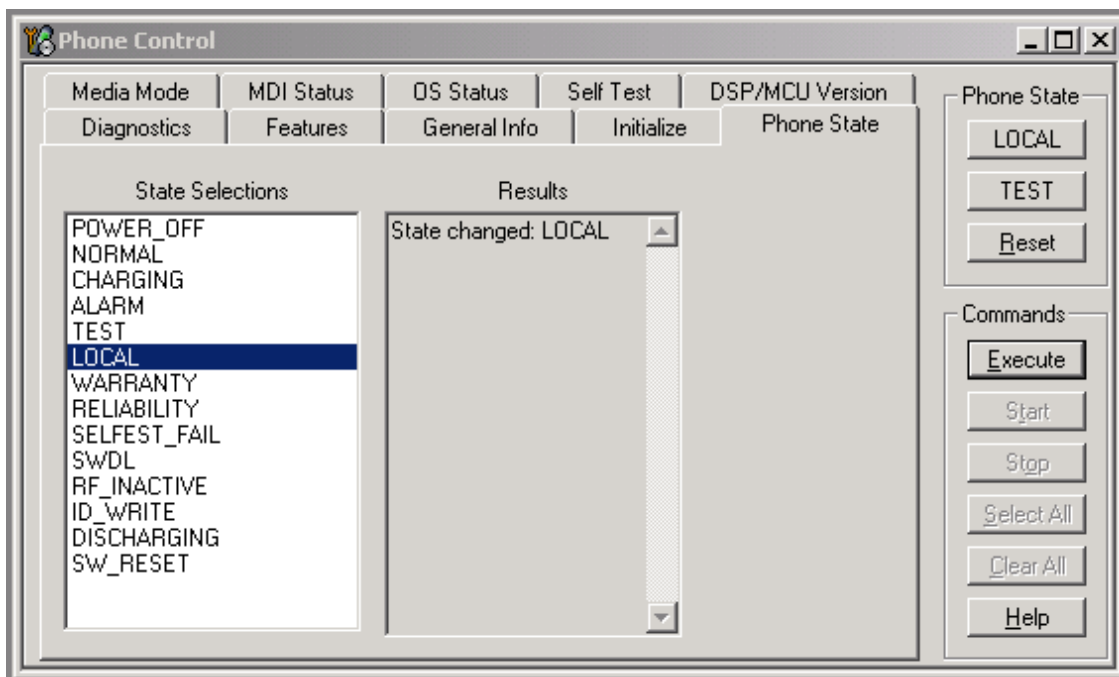

Figure 7: Phone Control dialog box
4. On the **Phone Control** dialog box, click the **LOCAL** button in the **Phone State** area to put the mobile terminal into Local Mode. (See Figure 7 on page 11.)
The **Phone Control** dialog box appears. (See Figure 7 on page 11.)